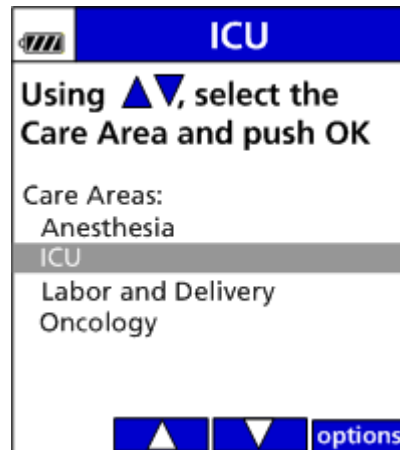

Figure 20. Select Care Area.
2. Use the arrow keys to select the Care Area (nursing area) and press OK. (See Figure 20.)